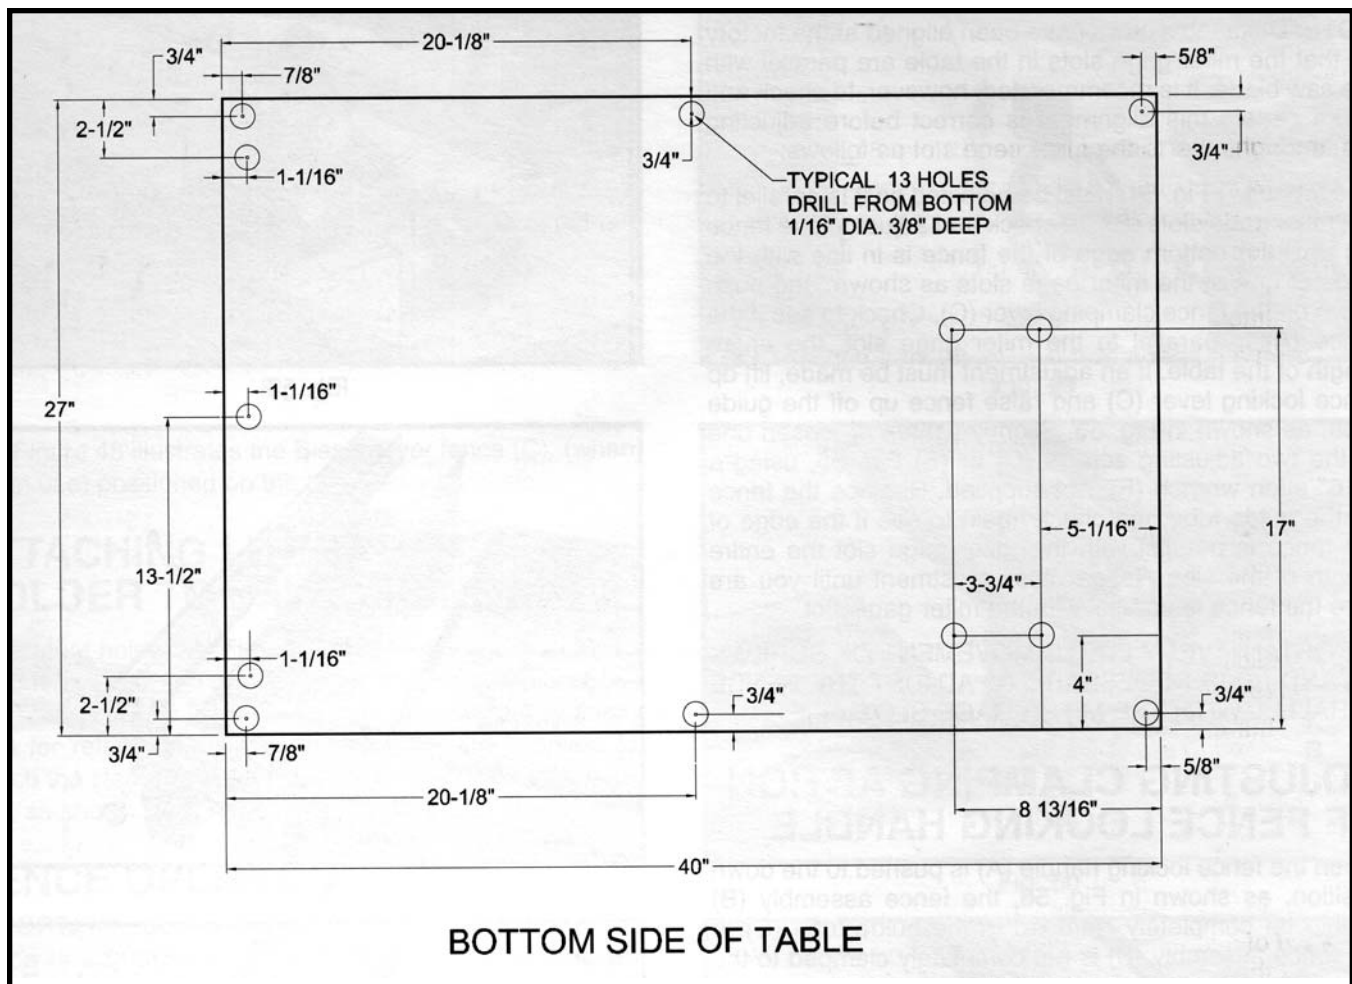

Fig. 58
1. The table board supplied will require thirteen 1/16" diameter x 3/8" deep holes to be drilled in the bottom of the table board at the locations illustrated in Fig. 58. **NOTE:** The table board should be positioned so that the edge with no veneer is on the side that will be attached to the extension wing.